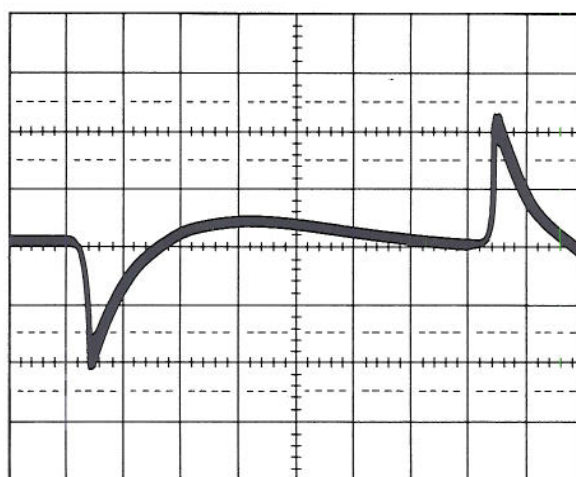

Figure 4-18. Pulse Modulation Video Feedthrough Waveform
- Adjust the oscilloscope channel A vertical sensitivity and vertical position to view the video feedthrough signal similar to Figure 4-18. Verify that the video feedthrough is less than 10mV.